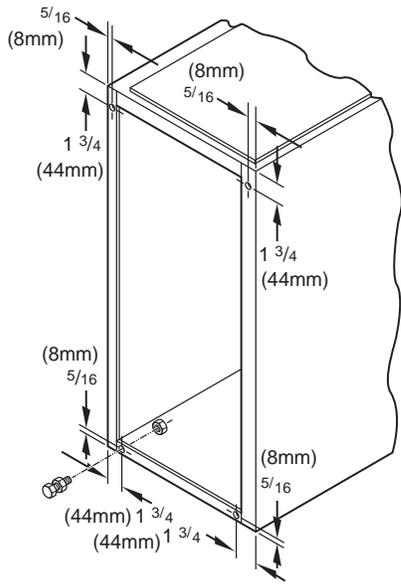

Fig. 12 – Leveling Legs
In upflow position with side return inlet(s), leveling legs may be used (see Fig. 12). Install field-supplied, 5/16 x 1-1/2 in. (8 x 38 mm) (max) corrosion-resistant machine bolts, washers and nuts.
1. Position furnace on its back. Locate and drill a hole in each bottom corner of furnace (see Fig. 12).